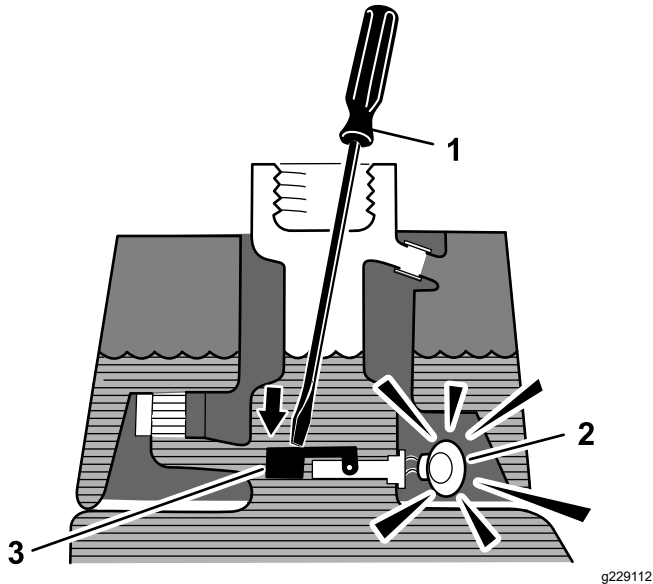

Figure 48
3. Insert a clean rod or screwdriver into the tank neck and gently push down on the float switch (Figure 48); the alarm should sound after the 1-second delay.